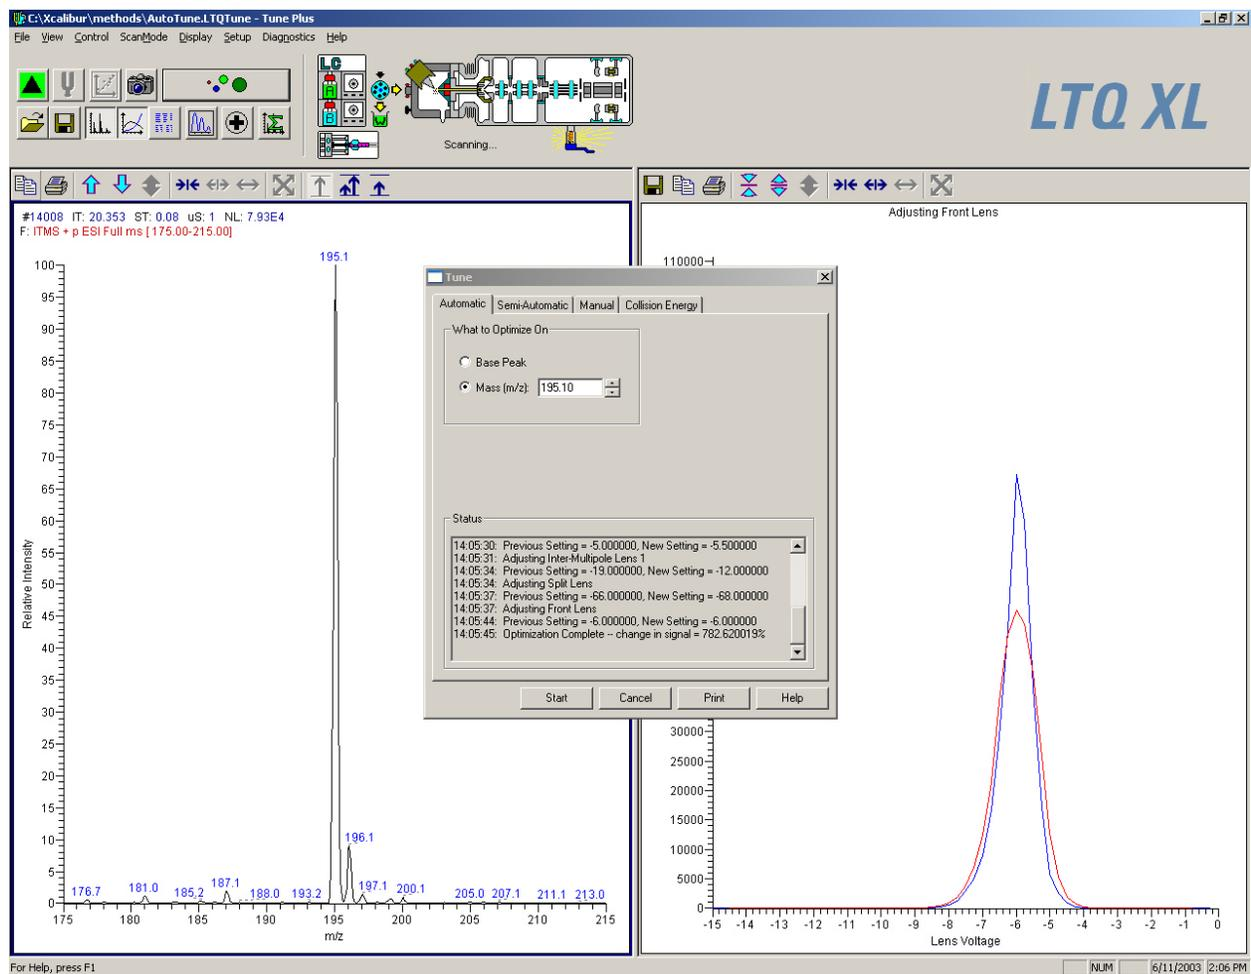

Figure 24. Tune Plus window, showing the results of a typical automatic tune procedure
- On the File/Display toolbar, click the **Graph View** button to display the Graph view. See Figure 24.
- Observe the Tune Plus window and the Tune dialog box. While automatic tuning is in progress, the LTQ XL MS detector displays various tests in the Spectrum and Graph views in Tune Plus and displays various messages in the Status group box in the Tune dialog box. Your Tune Plus window should now look similar to the one shown in Figure 24.